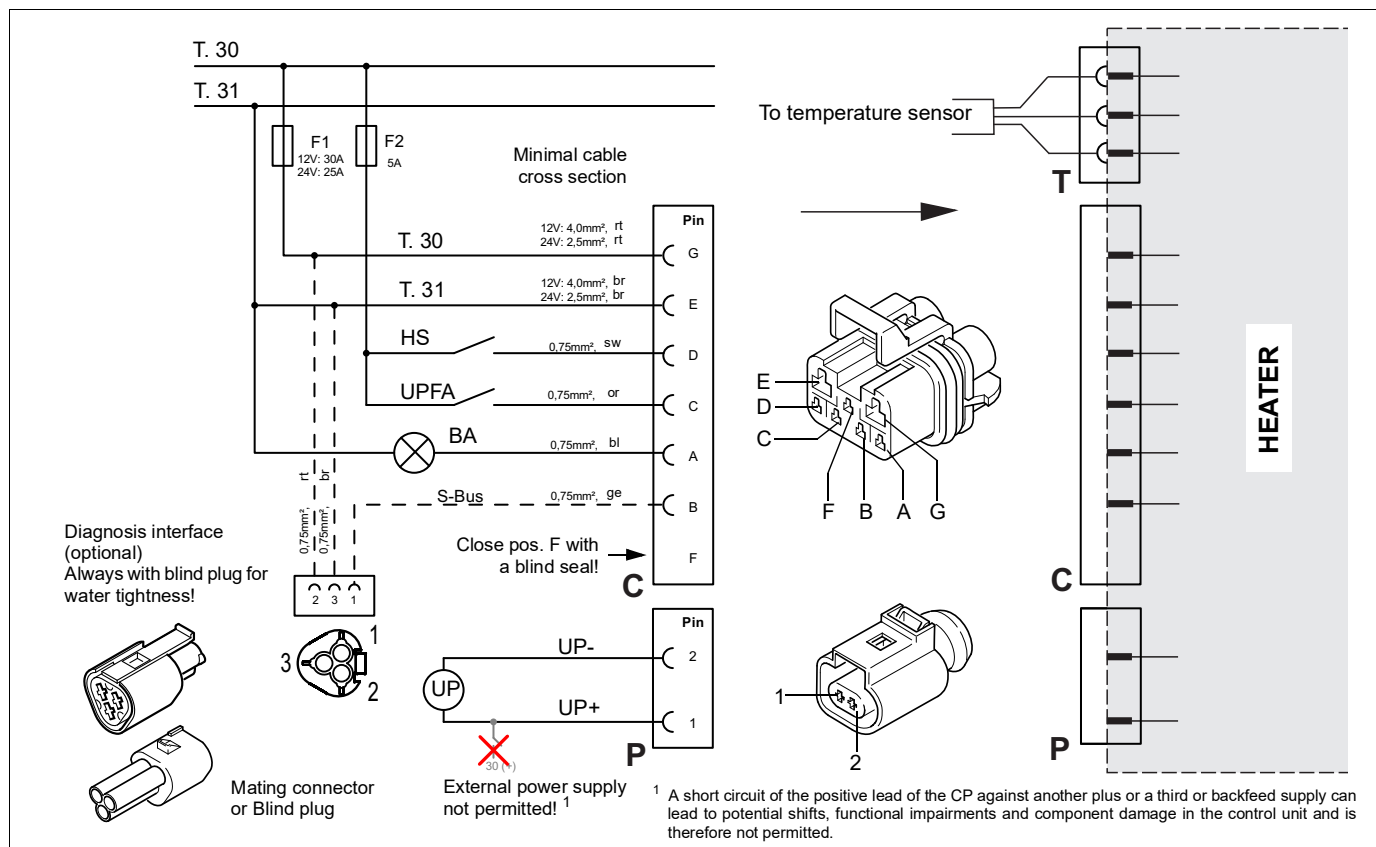

Fig. 9: Hook-up diagram for the heater Thermo E+ with switch, legend see page 19
The hook-up of the heater is to be performed acc. to the hook-up diagram shown in Figure 9. The interfaces are located outboard on the control unit.
- Circulating pump connection (see Figure 9)
For vehicle cable lengths up to 7.5 m, at least the prescribed cable cross-sections in Fig. 9 shall be used. For vehicle lengths of 7.5 m to 15 m, the cable cross-sections in the vehicle must be designed larger. At least the cable cross-sections given in the table must be used. Please note that the cable cross-section at the heater must not exceed 1 mm². In the case of larger cable lengths, a cross-section reduction must be carried out before the heater. The generally valid electrotechnical rules apply.
To connect the diagnosis, an additional adapter harness (11123550_) can be purchased. Alternatively, a connection can be realized by the customer as shown in Figure 9.
10.6. Hook-up diagram (see fig. 9)**10.6.1. Legend for hook-up diagram:**
To connect the Diagnosis Thermo Test or the blind plug (see Fig. 9):